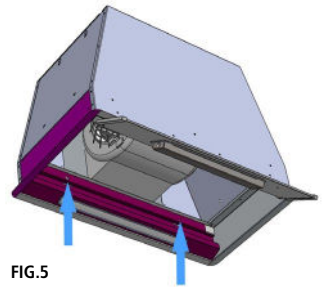

FIG.5
- › Remove the fixing screws of the rear steel bar (Fig.5).